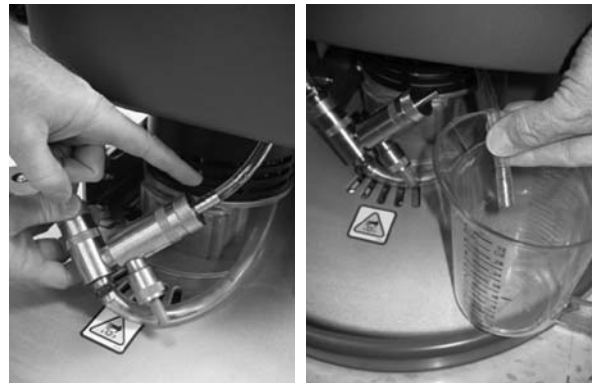

FIG. 78
3. Disconnect the opposite end of the FaST supply hose from the injector assembly and drain the detergent from the hose (Figure 78). Reconnect the hose after draining.